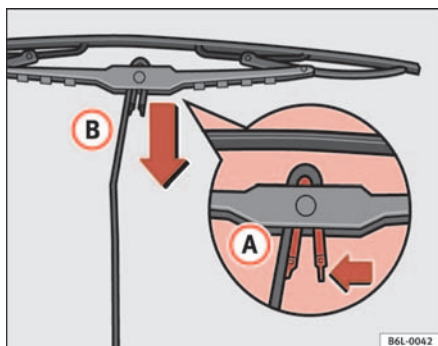

Fig. 127 Changing the rear window wiper blade
- Press the retaining spring in direction of the arrow **A** ⇒ fig. 127.